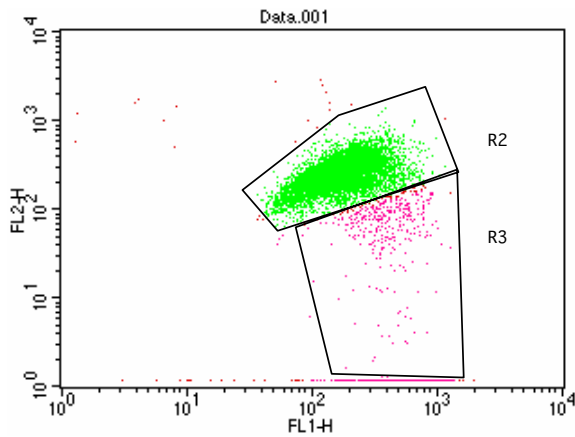

Figure 1: Negative cell control, Log FL1 (X-axis) and log FL2 (Y-axis) R2 = 91.07% R3 = 8.08%.
2. Add two regions, R2 and R3, as shown in Figure 1.
3. Run the negative control sample first (non-induced cells). Adjust the FL1 and FL2 PMT voltages so that the majority of the cell population falls within the upper right hand region. The peak of the dual fluorescent population should fall within the second and third log decade scale of FL1 (X-axis) and FL2 (Y-axis) as seen in Figure 1.
5. Next, adjust R3 so that it falls directly below R2, as in Figure 1.
In Figures 1 and 2, cells were analyzed in a FACS Caliber Becton Dickinson Flow Cytometer. Jurkat cells were either treated with DMSO (negative, non-induced cells) or with staurosporine (apoptotic, induced cells) for 3 hours at 37°C and then labeled with MitoPT[™] JC-1[™] for 15 minutes. Collapse of the mitochondrial $\Delta\Psi_m$ is indicated by an increase in the number of cells falling into R3 corresponding to a loss of red fluorescence, indicative of the onset of apoptosis or other $\Delta\Psi_m$ depolarizing event. (In these figures of flow cytometer data, non-apoptotic cells are in R2, which prints in green, and apoptotic cells are in R3, which prints in pink.)